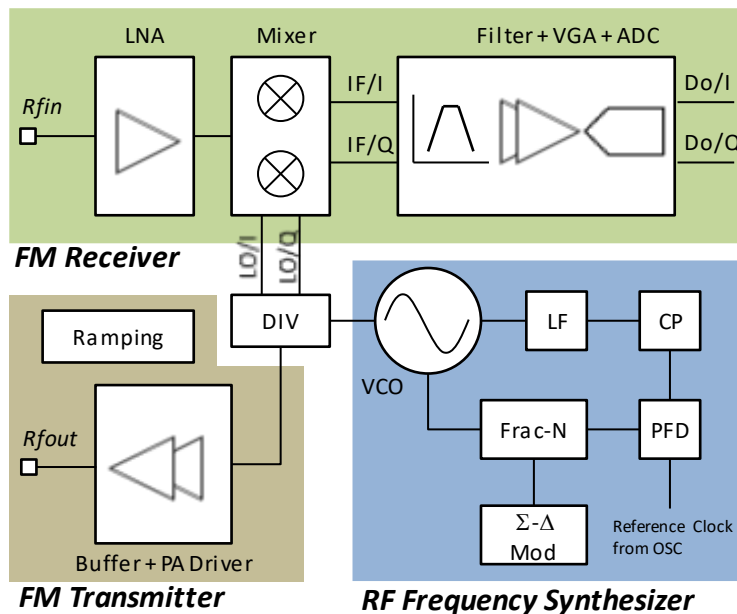

Figure 2 Radio Block Diagram
The receiver implements a low-IF image rejection architecture, which is composed with two parts: RF front-end and IF part. The RF front-end comprises a LNA and a quadrature mixer. The IF part comprises a low-pass filter (LPF) for channel filtering, a variable gain amplifier (VGA) and a high precision analog-to-digital converter(ADC). The block diagram of the FM receiver is shown in Figure 2.
The transmitter is a single-ended amplifier including a buffer and a PA driver. The block diagram of the transmitter is shown in Figure 2. Due to FM modulation is of constant envelope, the amplifier works in saturated mode to save current consumption.
An RF synthesizer is implemented to generate local oscillator(LO) signals. It includes a voltage controlled oscillator(VCO), a fractional-N divider(frac-N), a phase-frequency detector(PFD), a charge pump(CP) and a loop filter(LF). The RF synthesizer is shared for RX mode and TX mode. The block diagram of the synthesizer is shown in Figure 2.